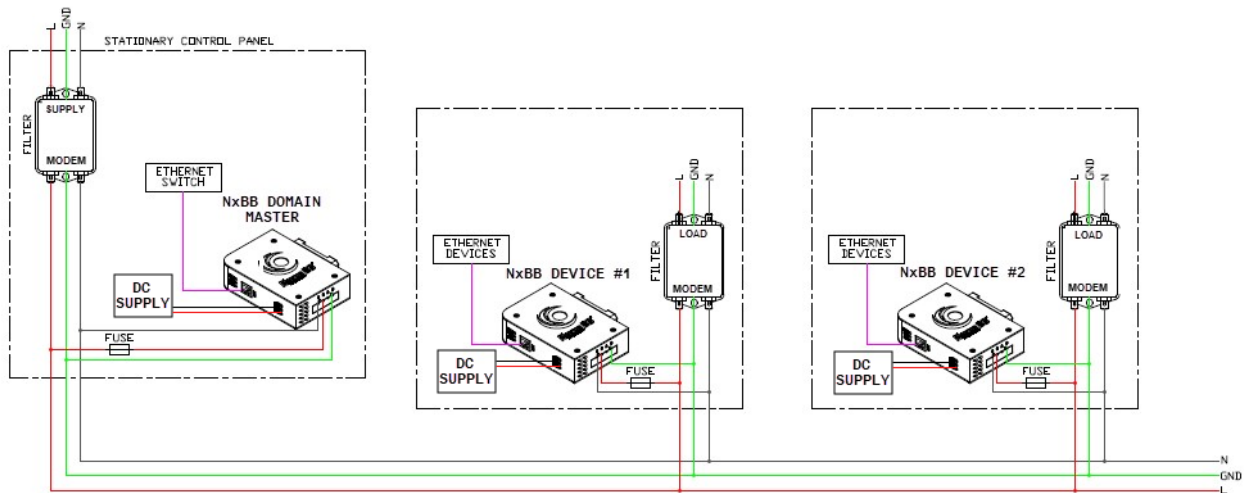

Figure: 7.7 - Example NxBB SISO Communication Topology for Externally-Powered Modems
- Use terminals **C and B** or **B and A** for SISO operation. (see Figure: 7.7).